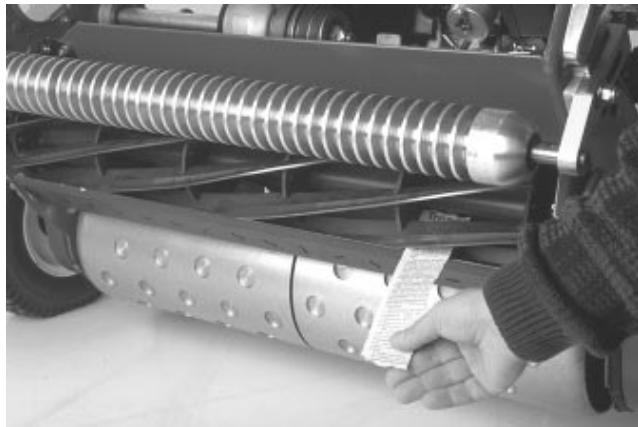

Figure 10
3. On one end of front side of reel, insert a long strip of newspaper between reel and bedknife (Fig. 10). While slowly rotating reel forward, turn bedbar adjusting screw, clockwise (on same end of reel, one click at a time, until paper is pinched lightly, when inserted from the front, parallel to the bedknife, which results in a slight drag when paper is pulled (Fig. 9).
5. After adjustment is accomplished, check to see if reel can pinch paper when inserted from the front and cut paper when inserted at a right angle to the bedknife (Fig. 10). It should be possible to cut paper with minimum contact between the bedknife and the reel blades. Should excessive reel drag be evident (more than 7 inch pounds) it will be either necessary to backlap or re-grind the cutting unit to achieve the sharp edges needed for precision cutting (see Toro reel sharpening manual).